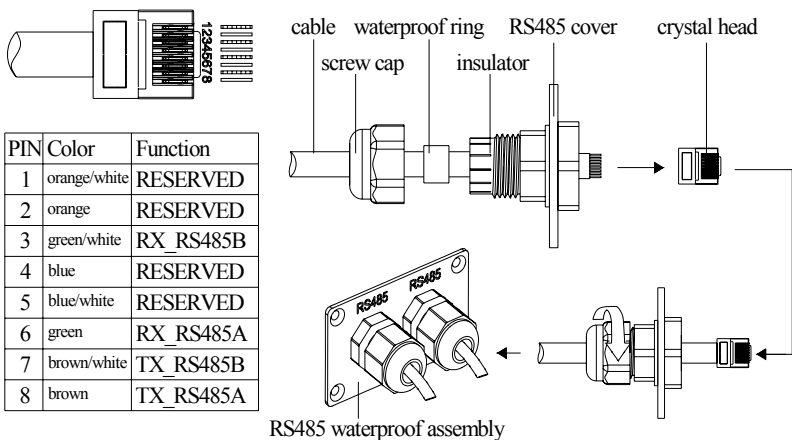

Figure 4.4-2
4. Put the cable through the components in this order: screw cap, waterproof ring, insulator, RS485 cover. Refer to Figure 4.4-2.
5. Put cable cores insert into the corresponding slots and compress the crystal head by professional tool, then screw down screw cap slight. Refer to Figure 4.4-2.